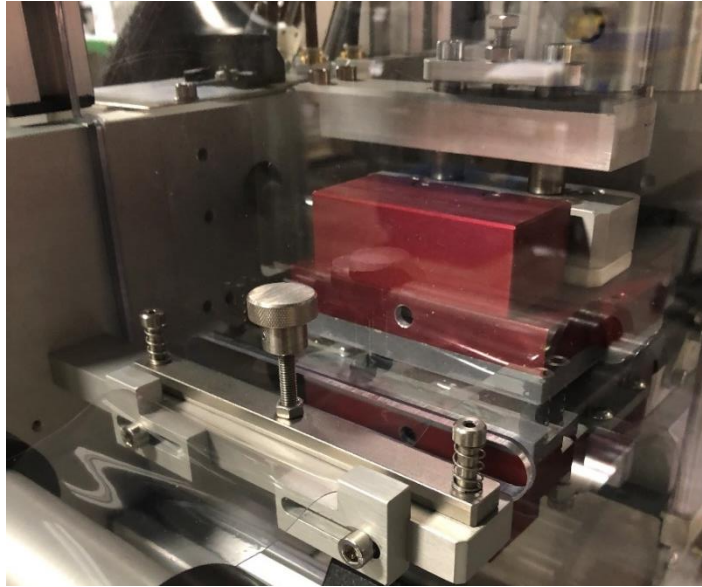

Figure 5
- The per-heaters can be changed for different index/format sizes by removed screw located on top and bottom per-heat plates. (*Figure 5*)